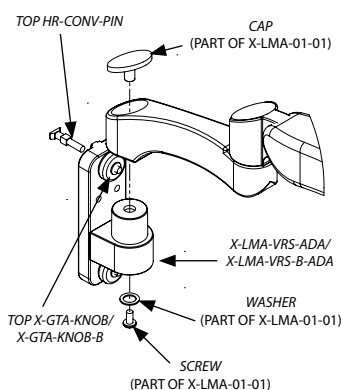

Figure 2
1. Remove the top X-GTA-KNOB/X-GTA-KNOB-B and the attached HR-CONV-PIN. (**Figure 2**)
2. Place LMA-__-(____)-__ onto X-LMA-VRS-ADA/X-LMA-VRS-B-ADA and secure by inserting SCREW (part of X-LMA-01-01) through WASHER (part of X-LMA-01-01), X-LMA-VRS-ADA/X-LMA-VRS-B-ADA, LMA-__-(____)-__, and into CAP (part of X-LMA-01-01). (**Figure 2**)
3. Replace the TOP HR-CONV-PIN and X-GTA-KNOB/X-GTA-KNOB-B. (**Figure 2**)